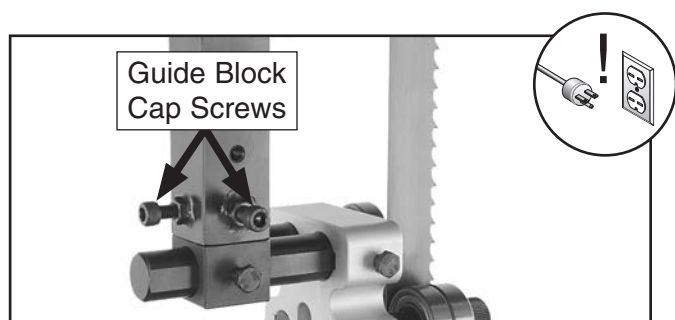

Figure 76. Guide block cap screws (blade guard removed for photo clarity).
3. Place one hand under the upper blade guide assembly to keep it from falling, loosen the two cap screws that secure the guide assembly to the guide post (see **Figure 76**), then remove the guide assembly.